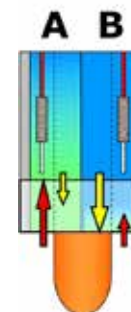

Figure 8: Outflow at low (A) and high electrolyte level (B), respectively.
On the left side (A) of Figure 8 you see the electrode in nearly empty state. In this state sample might diffuse into the electrode. On the right side (B) you see an electrode with filled electrolyte level. The diffusion of the electrolyte into the sample solution is guaranteed and therefore the diffusion of the sample into the electrode is prevented. At the same time the blocking of the diaphragm due to sample diffusion into the electrode is minimized or prevented.